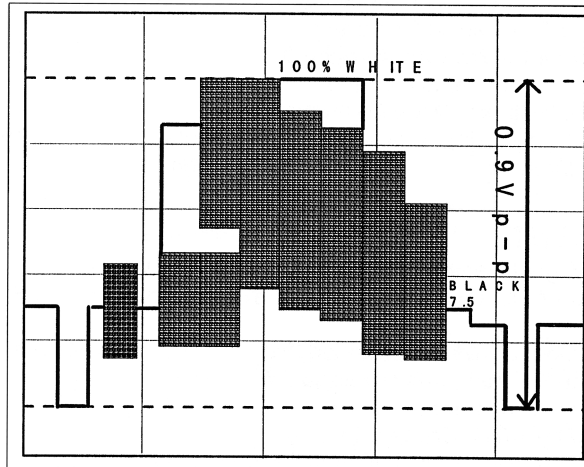

Fig. 7
6. Adjust VR701 to get the waveform at TP10 and TP4 is $0.9V_{p-p} \pm 0.1V_{p-p}$ same with the waveform at probe 1. (Refer to Fig. 7)